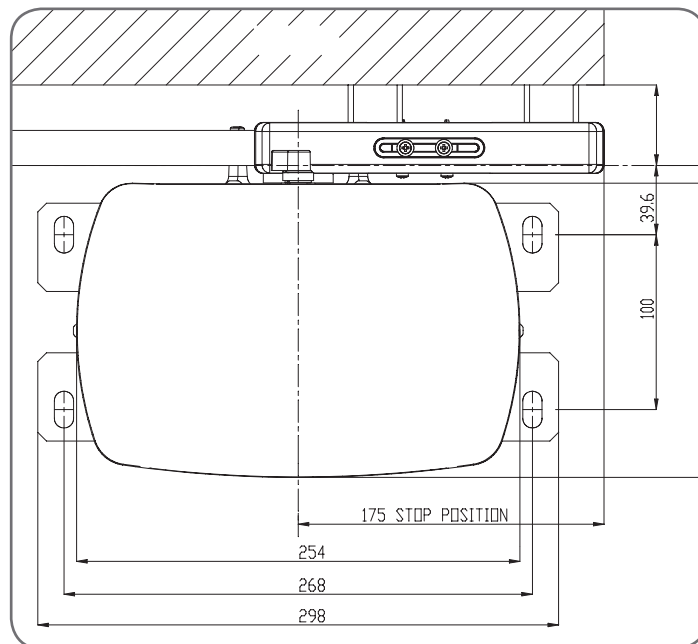
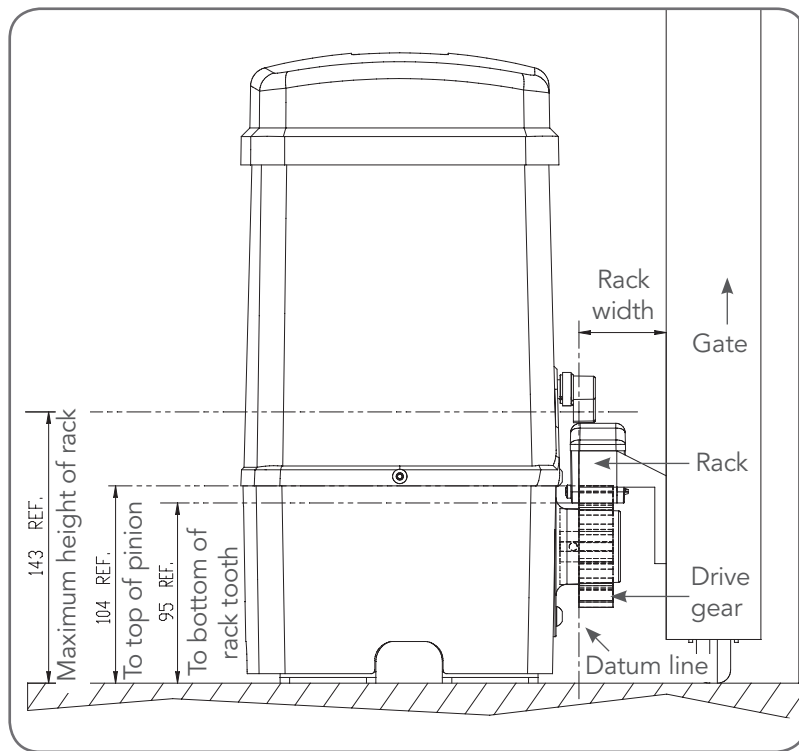

Fig 4.2
Fig 5.1
- Prior to mounting the NeoSlider™, determine the distance from the gate to the outer edge of the rack (i.e. the rack width) and to the datum line (see Fig. 4.2 and Fig. 5.1). If using an Automatic Technology plastic rack, the width is 40mm. If using a different brand of rack, please ensure it is Module 4 and then confirm the width, as this will vary.
- Mark a line parallel to the face of the gate for the mounting holes. The distance from the gate is determined by the formula $(38\text{mm} + \text{Rack Width})$. Therefore, if using an Automatic Technology rack, the distance is 78mm. Otherwise, if using a non-Automatic Technology rack, add your rack width (and spacers if required) to the 38mm (see Fig. 4.2).
- Another 100mm back, mark another line parallel to that described in point 2 for fixing. (see Fig. 4.2).
- Then mark another line 268mm parallel to this line (see Fig. 4.2).